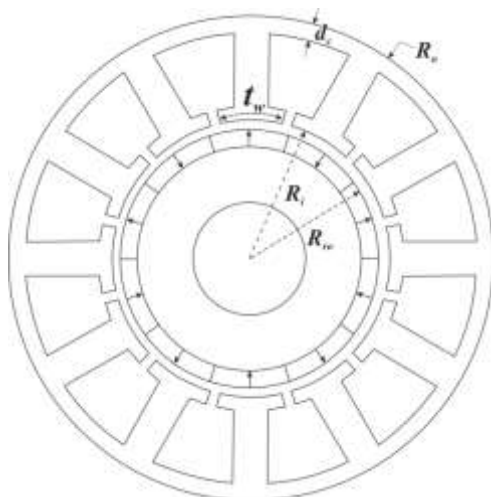

Figure 1
1. For the radial field, 12-slot, 10-pole surface mounted permanent magnet machine shown in Figure 1, the major dimensions and parameters are listed in TABLE 1, (full marks will not be given if the appropriate approximations are not specified).
- a. Assuming the permanent magnets are full arc (180°), calculate the magnetic loading B. List the possible ways to increase the magnetic loading B. (6)
- b. If the allowable peak no-load lamination flux density is 2 T, choose a reasonable stator tooth width (t_w) and comment on the result. (4)
- c. If the allowable peak no-load lamination flux density is 2 T, choose a reasonable stator yoke thickness (d_c) and comment on the result. (4)
- d. Calculate the electric loading Q if the total Ampere-Turns for the 3-phase windings are $NI = 1000A$. List the major issues of increasing electrical loading Q. (4)
- e. Calculate the electromagnetic torque using previously obtained electrical loading Q and magnetic loading B. (2)